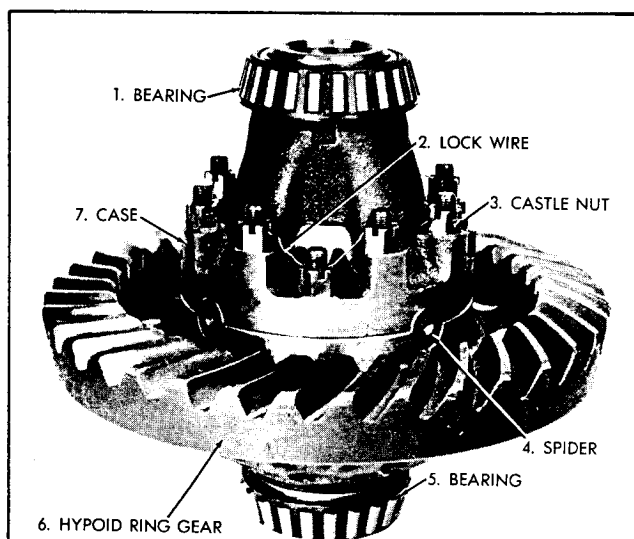

Fig. 6 — Differential Case and Gear Assembly
2. Cut the lockwire and remove the castle nuts that secure the case halves (Fig. 6).